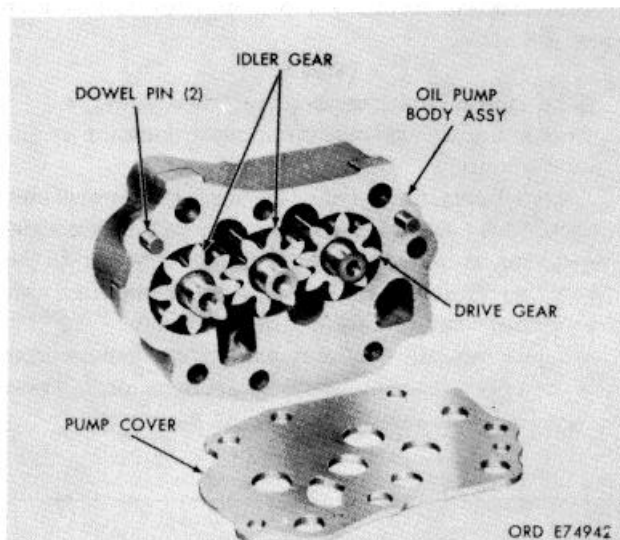

Figure 7-50. Output oil pump components
a. Remove the output oil pump cover (fig. 7-50) from the output oil pump body assembly.